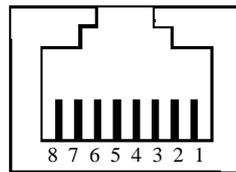

Figure 9 RJ45 Port
- Pin definition of 10/100Base-T(X) RJ45 port
Pin number of 10/100Base-T(X) RJ45 port is shown in Figure 9